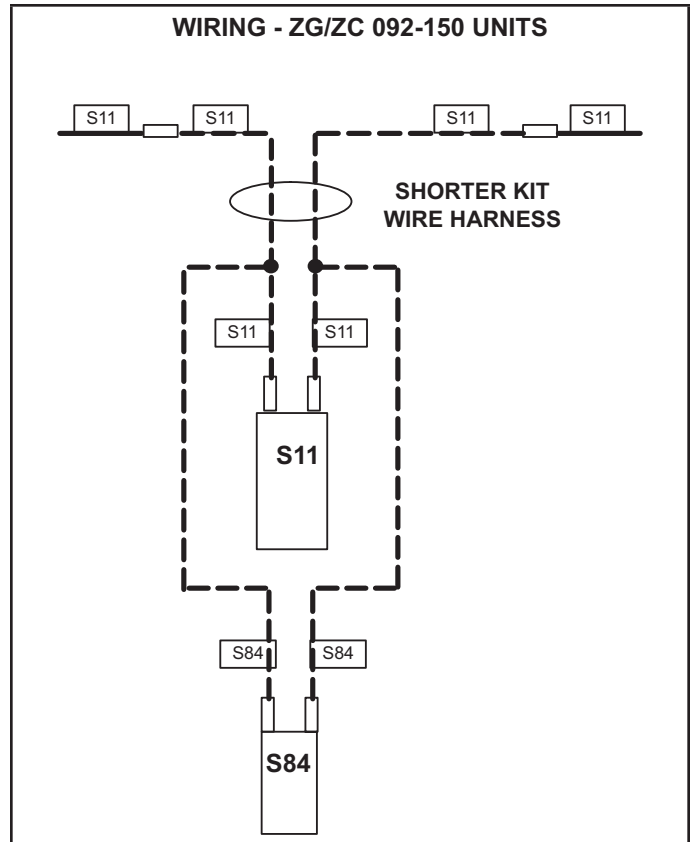

FIGURE 11
- 2 - Locate shorter kit harness and connect wires as shown in FIGURE 11. Discard longer harness when installing a ZG or ZC unit.